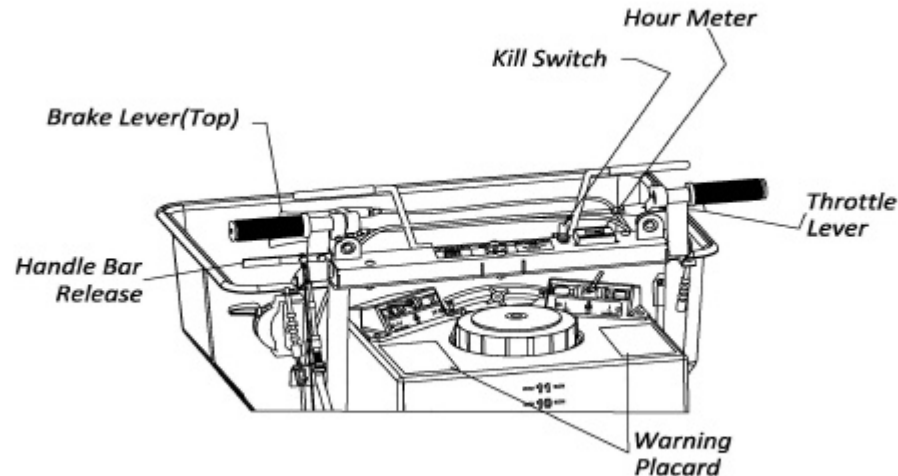

Figure 4. Operating Controls Location
1. Before attempting to drive the machine, refer to Figure 4 above and be sure the operator is familiar with all the operating controls and features.